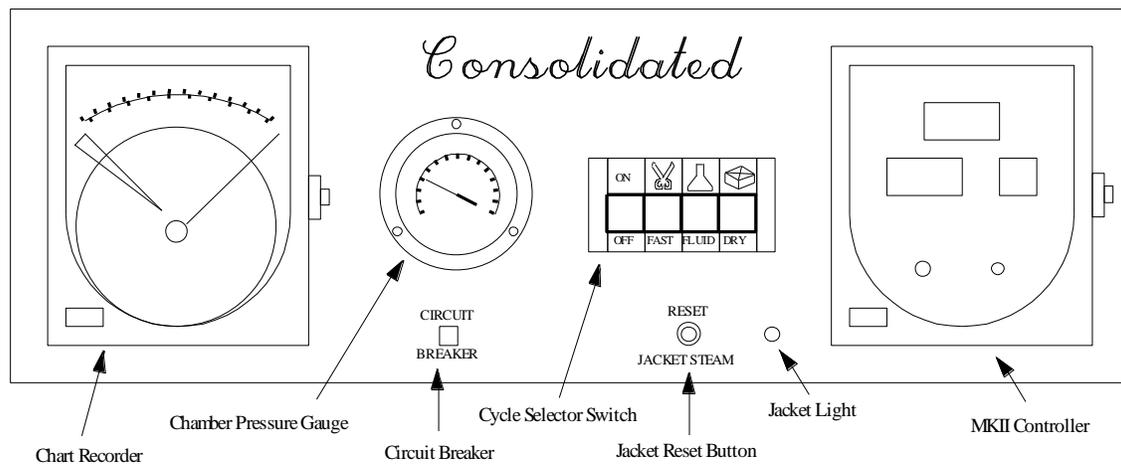

Figure 2.1 The Mark II Controller & Chart Recorder
The Mark II is a simple, easy-to-operate sterilizer control system. It allows selection of sterilizer cycles, setting of temperature, and times for Sterilization and Dry. It displays status of the machine in sterilize or exhaust modes, executes selected cycles, and prints a chart of sterilizer temperature vs. time. Figure 2.1 shows a typical Mark II controller with a chart recorder.
The Mark II controller was designed with simplicity of operation in mind. The controller allows setting of sterilization time and dry time (for a Dry cycle only). LEDs on the controller show when the machine is in the sterilize mode and when it is in the exhaust mode. A selector switch (see Figure 2.1) allows user to select one of three types of cycles: Fast, Fluid, & Dry. A pressure gauge shows the current steam pressure inside the chamber of the sterilizer. A chart recorder records a graph of time vs. temperature during the cycle. For Low-Temp equipped sterilizers, please see section 4.3.
When the green Jacket Light (see Figure 2.1) comes on, you need to press the Jacket Reset Button and wait for the jacket pressure to build up before you can start a new cycle.
The cycle selector switch is used to select the type of cycle to run and to start a cycle. The cycle selector switch is located on the front of the sterilizer near the controller (See Figure 2.1). The cycle selector switch is depicted in Figure 3.1 below. For Low-Temp equipped sterilizers, please see section 4.3.
4. Check to make sure the chart recorder (see Figure 2.1) is set to the correct sterilization temperature. Check to make sure the correct sterilization and dry (if applicable) times are on the MK II controller (see Figure 2.1). Select the correct cycle by pressing the appropriate button on the cycle selector switch (see Figure 3.1). If you have a double-door unit, there are warning lights on both ends of the unit that are ON when either door is open. Make sure both doors are securely tightened before attempting to run the machine. Otherwise, the control system will not allow a cycle to begin.
The above process occurs automatically every time you run a Fluid cycle with your machine. Because of this, you need to reset the Jacket pressure by pressing the Jacket Reset Button (see figure 2.1) after you run a Fluid cycle in order to allow the steam pressure to build back up in the Jacket. The green Jacket Light (see figure 2.1) will be on to indicate that the red Reset Jacket Button needs to be pressed in order to pressurize the Jacket for your next cycle.